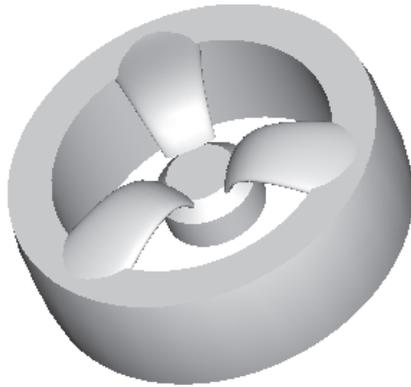

Figure 8-73 Model after creating pattern
trajectory, see Figure 8-72. First the sketch for the origin trajectory will be drawn and dimensioned and then two sections at the start and endpoints will be defined along the origin trajectory. Then this feature will be patterned, see Figure 8-73.
7. Enter **3** in the **Message Input Window** and press ENTER. Choose **Done** from the **EXIT** submenu. The rotational pattern is created as shown in Figure 8-73.